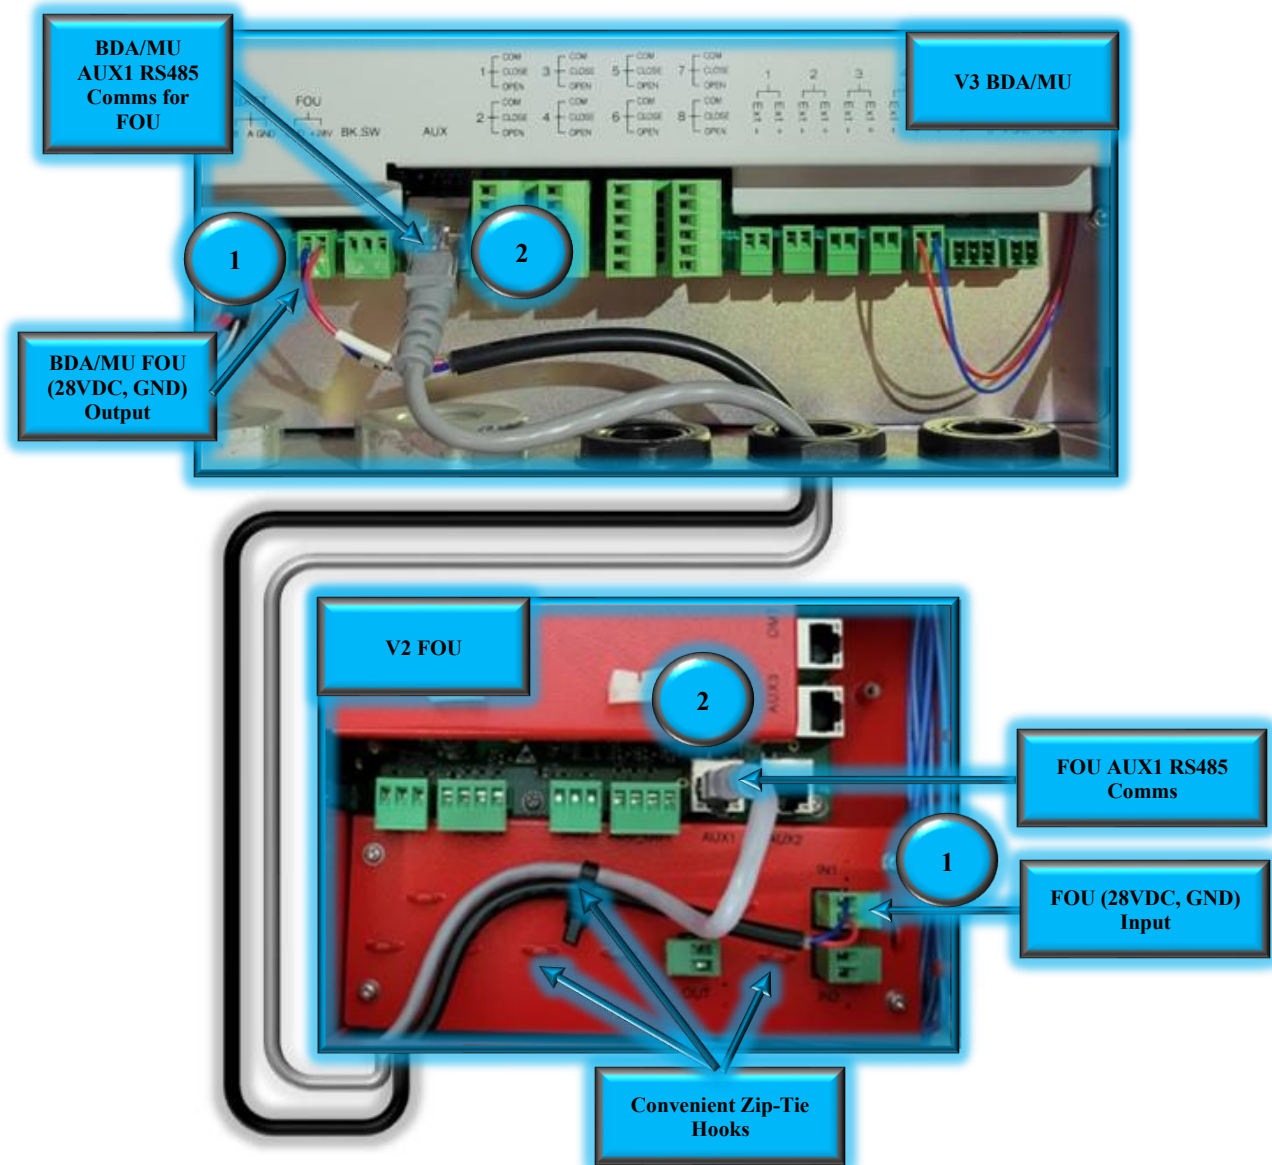

Figure 61: V3 BDA/MU to and V2 FOU Power and Communication Wiring
- Connect BDA/MU to FOU(See Figure 61):